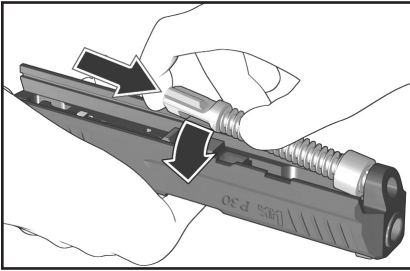

Figure 40 — Reassembling the recoil spring onto the barrel and side
4. Push the recoil spring forward into position, compressing the recoil spring, then pivot the back of the recoil spring guide rod on to the stepped mounting surface located on the front of the barrel locking lug (see Figure 40). Ensure the front of the recoil spring is facing forward in the slide.